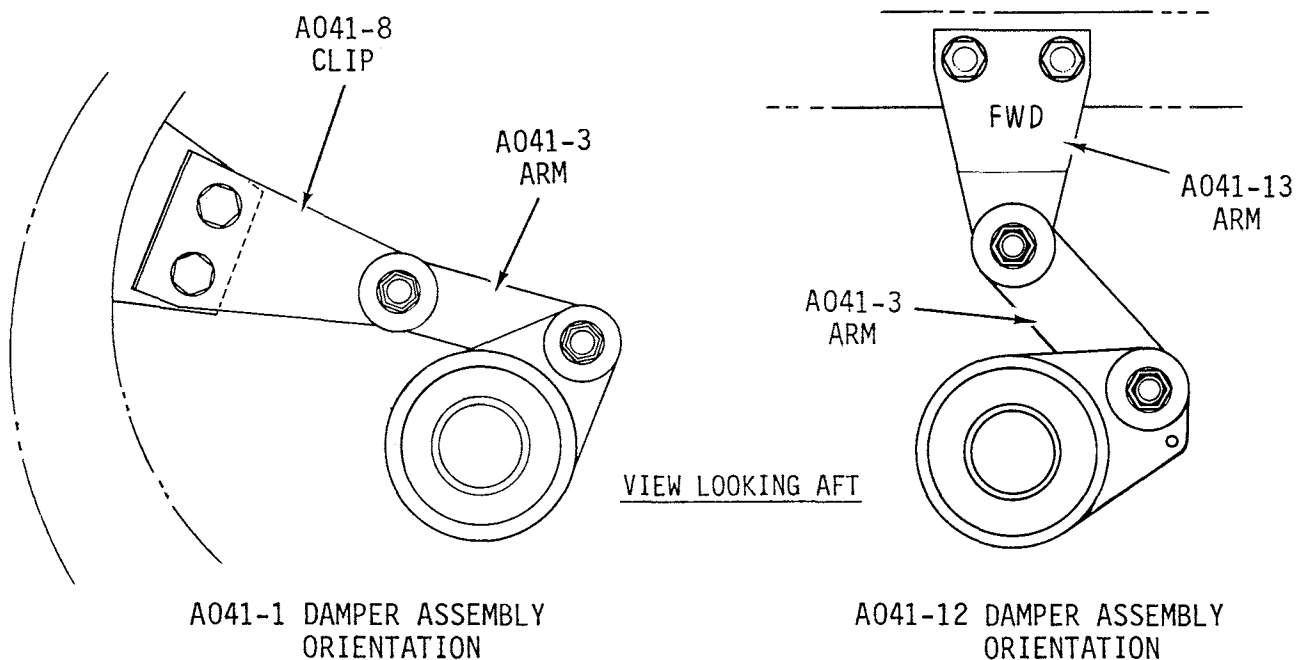

FIGURE 7-11B
- e) Connect damper assembly to tailcone frame and torque attach bolts per Section 1.320. Through inspection holes on side of tailcone, determine longitudinal alignment of damper clip (or arm) with tailcone's attachment bracket. If clearance or interference between clip (or arm) and bracket is greater than 0.12 inch, contact RHC Technical Support. Ensure damper is oriented per Figure 7-11B.